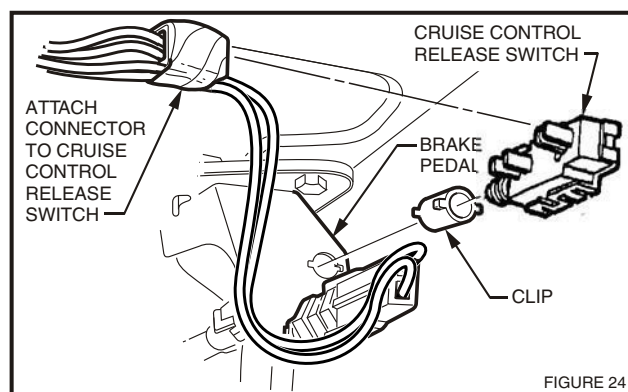

FIGURE 24
56. Fit clip from cruise control package to mounting hole of the brake pedal support, refer fig 24.